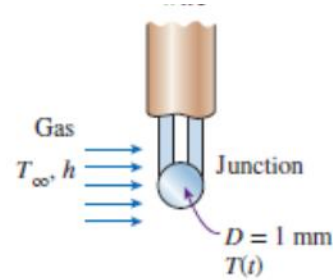

Figure 2
- ii) The temperature of a gas stream is to be measured by a thermocouple whose junction can be approximated as a 1 mm diameter sphere, as shown in Figure 2. The properties of the junction are  $k = 35 \text{ W/m}\cdot\text{K}$ ,  $\rho = 8500 \text{ kg/m}^3$ , and  $C_p = 320 \text{ J/kg}\cdot\text{K}$ , and the convection heat transfer coefficient between the junction and the gas is  $h = 210 \text{ W/m}^2\cdot\text{K}$ . Determine how long it will take for the thermocouple to read 99 percent of the initial temperature difference.